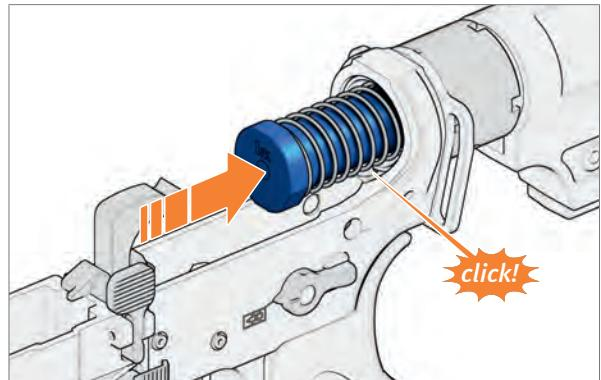

Fig. 122: Insert buffer with recoil spring into buttstock
2. Insert buffer with recoil spring into buttstock (Fig. 122).